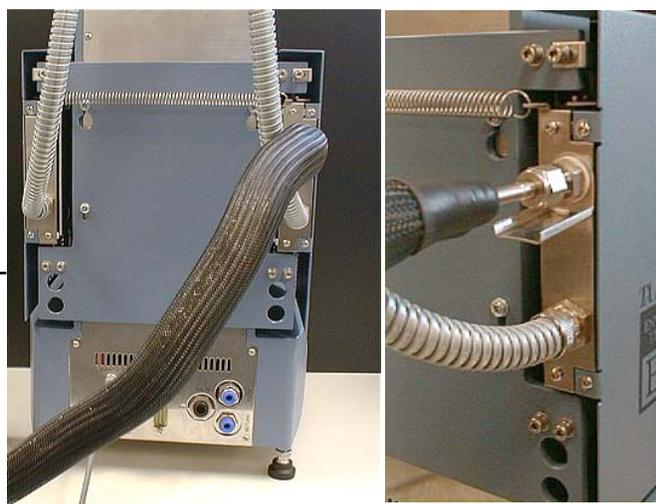
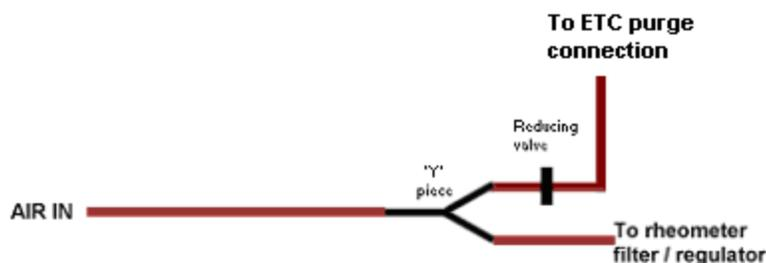
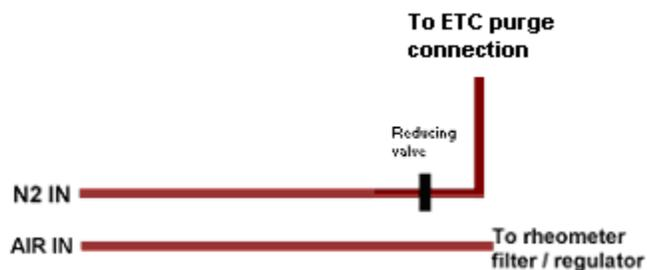

Figure 5.20
Figure 5.21
Figure 5.22
18. Connect the purge gas to the rheometer as seen in Figure 5.20 to the right. If you have a suitable supply of nitrogen gas (2 bar minimum pressure, nominal 10 liters per minute flow rate) it is recommended that you connect the feed gases to the ETC as shown in Figure 5.22. Otherwise, connect as shown in Figure 5.21 below.